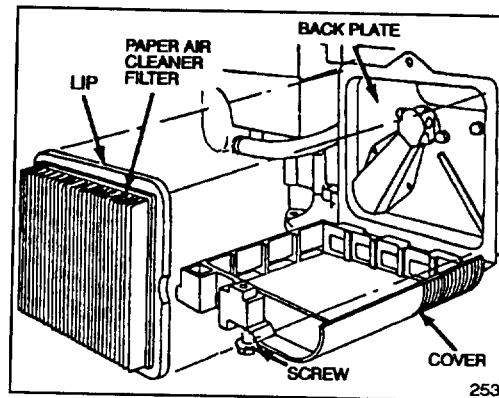

Figure 13
3. Remove paper air cleaner filter (Fig. 13) and discard.
4. Insert new paper air cleaner filter cartridge so lip touches back plate as shown in Figure 13.